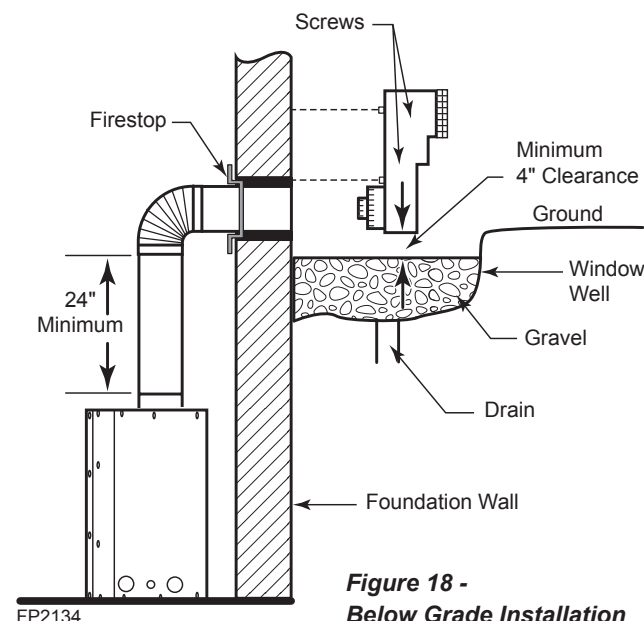

**Figure 18 -
- The maximum number of elbow degrees in a system is 270°. *Figure 18*
2. Remove soil to a depth of approximately 16" below base of snorkel. Install drain pipe. Install window well (not supplied). Refill hole with 12" of coarse gravel leaving a clearance of approximately 4" below snorkel. *Figure 18*
7. Level the soil so as to maintain a 4" clearance below snorkel. *Figure 18*